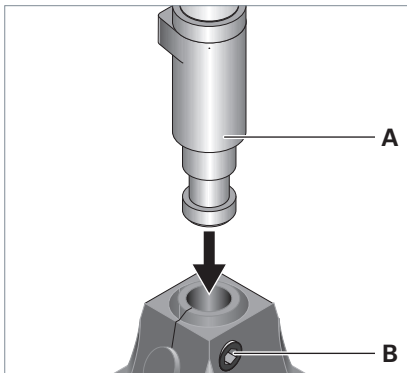

Fig. 2: Mounting the light to the fastening element.
- ▶ Insert the stud **A** on the light support into the opening of the fastening element, see Fig. 2.
- ▶ Tighten the screw **B** to fix the support, see Fig. 2.